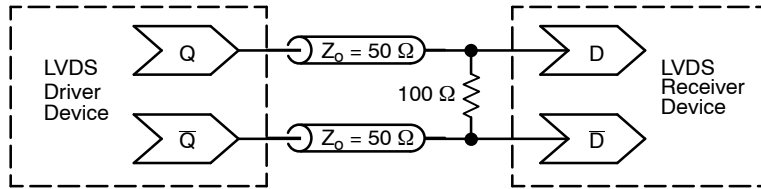

Figure 17. Typical LVDS Termination for Output Driver and Device Evaluation
5. LVDS outputs require 100  $\Omega$  receiver termination resistor between differential pair. See Figure 17.
12. Measured by forcing  $V_{INPPmin}$  with 50% duty cycle clock source and  $V_{CC} - 1400\text{ mV}$  offset. All loading with an external  $R_L = 100\ \Omega$ . Input edge rates 150 ps (20%–80%). See Figure 17.